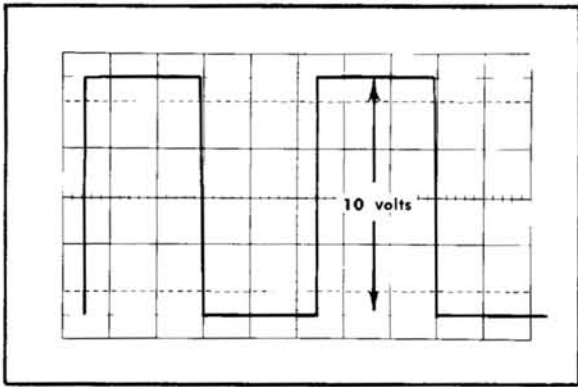

Fig. 5-9. Test oscilloscope display for checking amplitude adjustment.
a. Position the pulse with the test oscilloscope vertical position control so that it is centered on the CRT (see Fig. 5-9).
b. Position the pulse so that it is centered on the CRT (see Fig. 5-9).